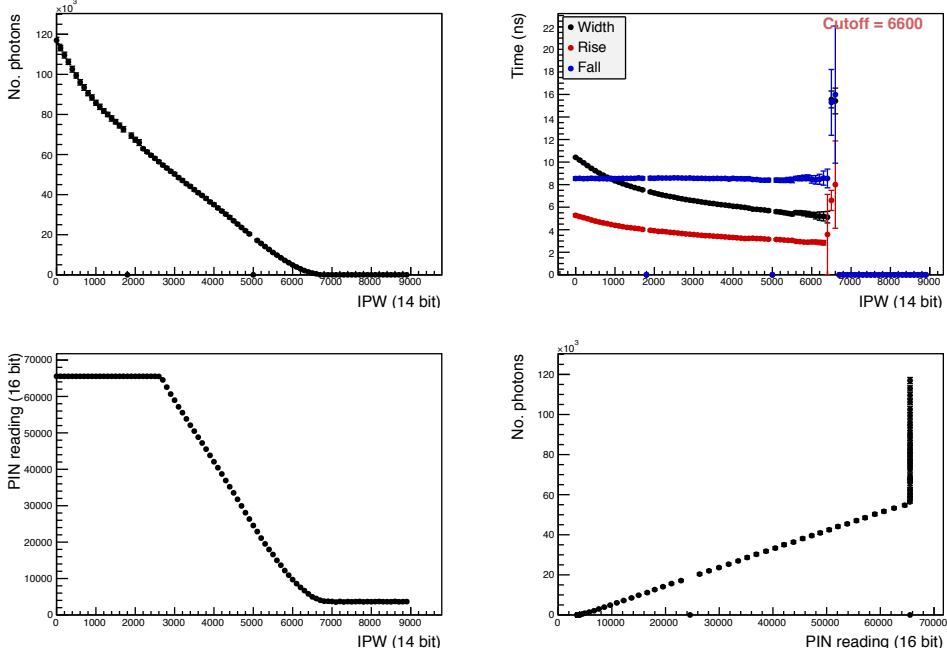

Figure 6: *Master plot as returned from running plot_ipw.py on a broad sweep data set.*
and will generate a master plot as shown in Figure 6, along with a number of additional plots for interest. The master and additional plots are stored at `./broad_sweep/plots/` and `./broad_sweep/plots/channel_XX/` respectively.
- The PIN diode does not saturate below 40,000 photons. This is checked using the bottom left plot shown in Figure 6. If the PIN *DOES* saturate below 40,000, the gain has been set too high. The operator will have to re-run the set-up ensuring a lower gain setting for the PIN diodes amplifier (i.e. re-adjusting POT 2).